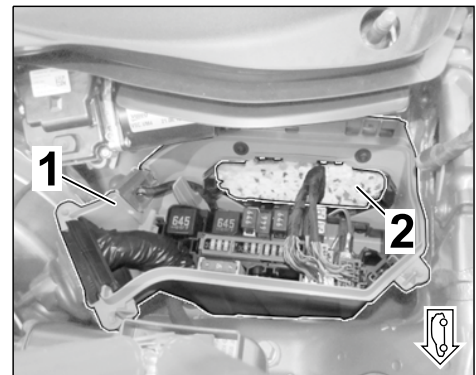

Figure 11
1.4.4 Remove cover on fuse box (E-box) in cowl panel (⇒ *Figure 11*, ⇒ *Workshop Manual '978409 Loosening and securing fuse box*)